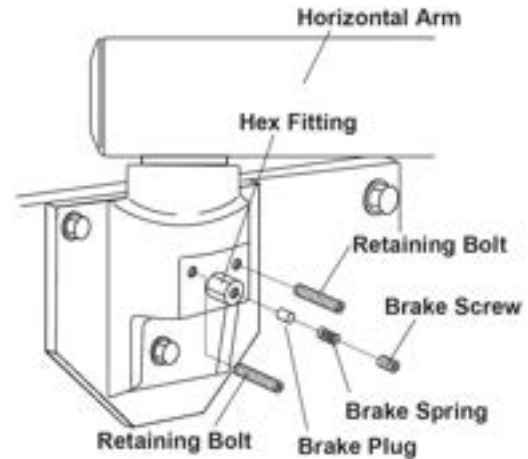

Fig.3-4 Horizontal Arm
2. Insert two retaining bolts into the upper threaded holes of the arm mounting bracket and tighten securely with a Allen wrench. (**Fig.3-4**)
3. Insert brake plug, brake spring and brake screw (M6 x 6 mm) into the threaded hole of the hex fitting located on the arm mounting bracket. **DO NOT FULLY TIGHTEN.** (**Fig.3-4**)